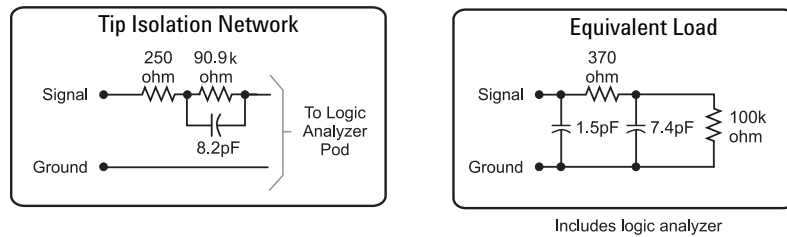

Figure 4.1. Probe tip isolation network and equivalent load
The standard probing system consists of IC clips, probe leads, probe housing and probe cable. Because it is passive, the standard probing system is smaller, lighter, and much easier to use than active probing systems. This passive probing system is similar to a probing system used on a high frequency oscilloscope. It consists of an isolation network (as shown in Figure 4.1) at the probe tip and a shielded resistive transmission line. The advantages of this system are:
- High input impedance. See Figure 4.1.